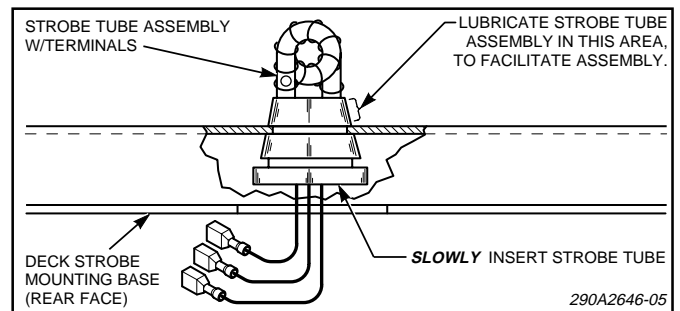

Figure 8.
6. See figure 8. SLOWLY insert the new strobe tube in the mounting bar until it is properly seated in the top slot of the strobe tube. If the strobe tube is difficult to insert, remove it and apply a high temperature grease, or Vaseline, to the rubber edge of the strobe tube and try again.